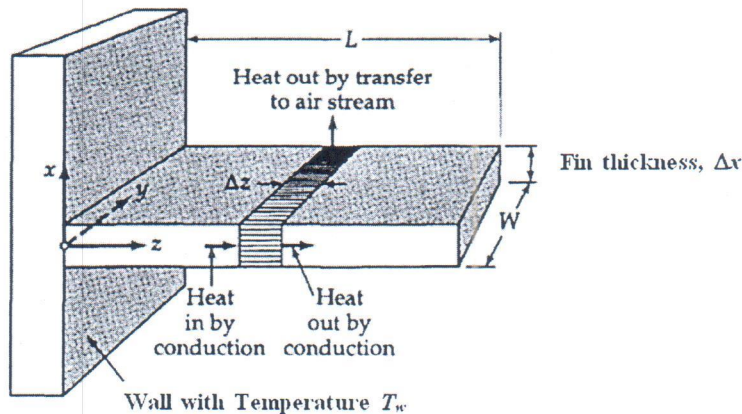

Figure Q.4.[b].
- [b] A schematic representation in Figure Q.4.[b] shows a phenomenon where heat is being constantly dissipated through a rectangular fin. The effectiveness of the fin surface for heat transfer is defined as parameter η with a condition that the wall is maintained at constant temperature (isothermal). Given: